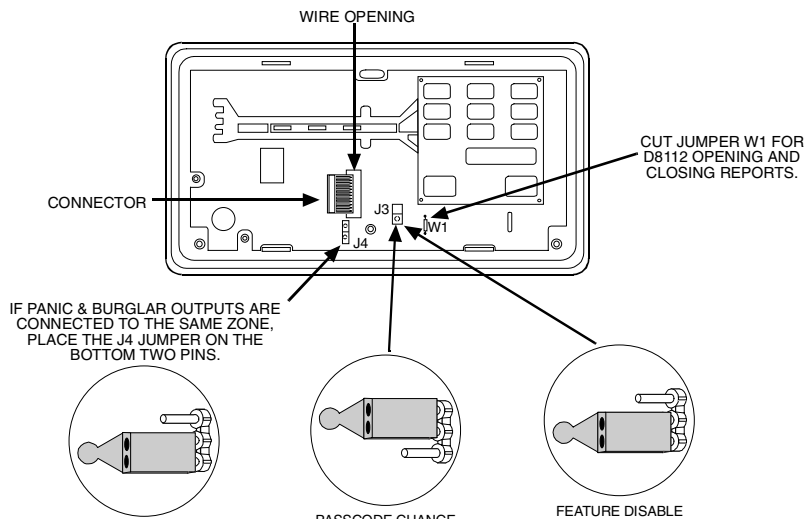

Figure 3: D279A Printed Circuit Assembly
- If the **Panic** and **Burglary** outputs are connected to the same zone or point, place the J4 jumper on the bottom two pins (see Figure 3).
- If the **Panic** outputs from several Independent Zone Controls are connected to the same zone or point, place the J4 jumper on the bottom two pins (see Figure 3) on all but one D279A.
A four digit passcode is used to arm and disarm the D279A. This code can be changed only by first knowing the existing (old) passcode. Change the passcode only while the D279A is DISARMED, and BOTH protective loops are normal. If you make a mistake while programming, restart the procedure from Step 2. If programming is not completed in 60 seconds, the Independent Zone Control reverts to the old passcode. As shipped, the J3 jumper plug is placed across the top two pins, which enables passcode change (see Figure 3). The passcode change
**To prevent further use of this feature, place jumper J3 across the bottom two pins (see Figure 3 above).**
Programming the D279A as a priority zone enables two valuable functions. When the zone code for the D279A is programmed with a 3, 4, 7, or 8 in the fourth digit position, the IZC. zone must be armed before the system can be master armed. However, once the D8112 is armed, the D279A may be armed and disarmed. In addition, priority zone programming provides for an arm/disarm status display at the command center for the IZC. zone. Pressing any key displays the disarmed priority zone as a faulted zone. Cut jumper W1 to enable the priority zone feature (W1 is a violet colored jumper, see Figure 3).